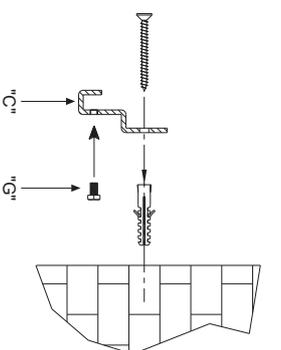
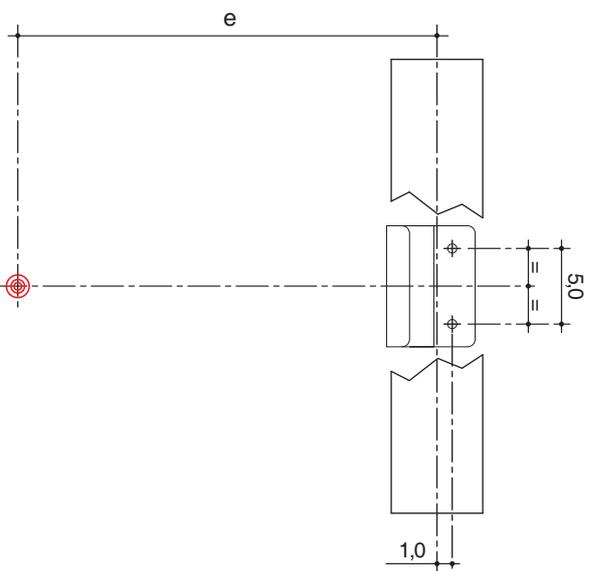

fig. 6
fig. 5
3.5 Following carefully the measurements shown in the drawing and the table of Fig. 1, secure the central prop "C" keeping it on the same axis of the center of the radiator (Fig.5). Use suitable plugs for the wall type, able to support the radiator on the wall (Fig.6). The radiator is supplied with D.8 mm plugs for reinforced concrete.
3.6 Hook the radiator leaning the rear part of the towel bar into the rectangular inlet of the support "C"(Fig.6).
3.8 Placing himself in front of the radiator, put it in vertical position and tighten up the screw "G" on the rear part of the support (Fig.6). Placing himself laterally to the radiator, make sure that the radiator is parallel to the wall.